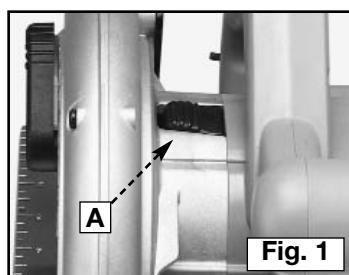

Fig. 1
1. Push in the blade lock (A) Fig. 1 and rotate the blade by hand until the lock engages the blade arbor.